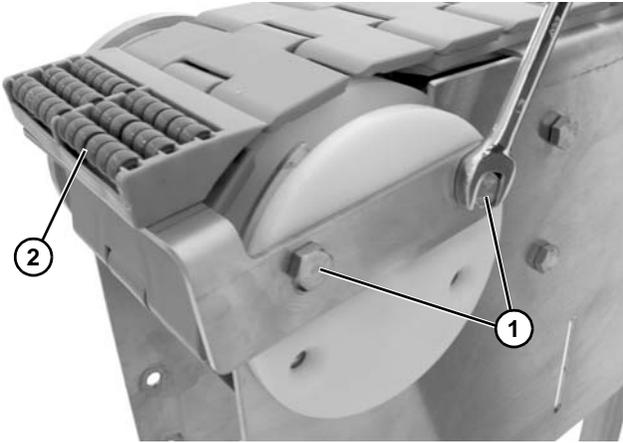

Figure 81
1. Remove four hex head screws (**Figure 81, item 1**) and roller transfer assembly (**Figure 81, item 2**) from conveyor.